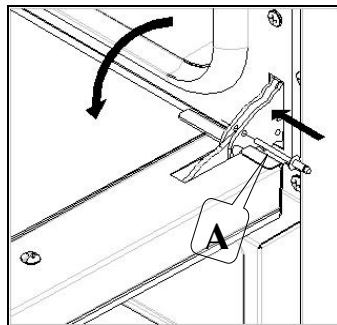

Fig. 6
- insert the equipped plugs in the "A" holes on the hinges (Fig. 6);